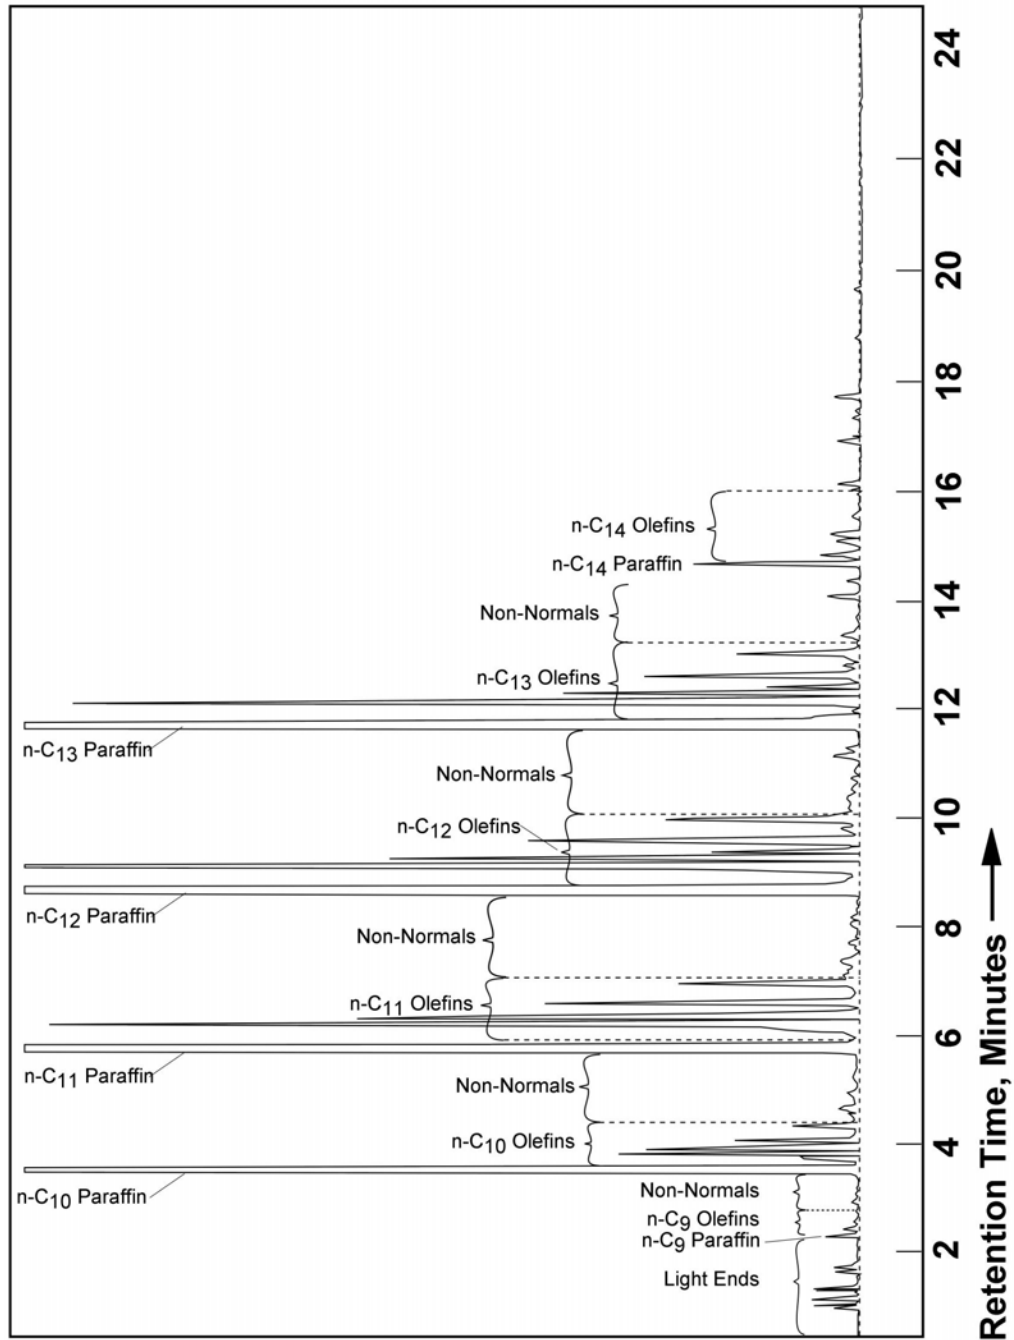

Figure 1
- Different conditions may be used provided they produce the required sensitivity and chromatographic separations equivalent to those shown in the Typical Chromatograms (Figures 1, 2, and 3).
8. Identify the components by comparing the resultant chromatogram with the Typical Chromatograms (see Figures 1, 2, and 3).